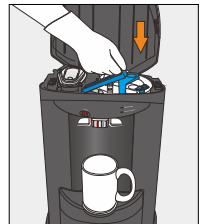

Figure 37
14. Close the locking clip to secure water outlet tubing in place (Figure 37)